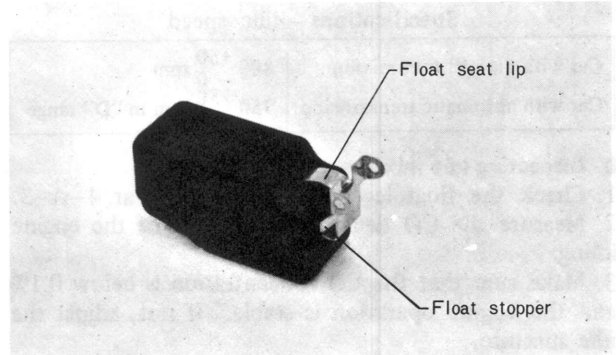

Fig. 4-8 Float
4. Adjust the clearance (H) to be 10 mm (0.39 in) by bending the float seat lip shown in Fig. 4-8.
If the distance (L) is not within specifications, adjust it by bending the float stopper shown in Fig. 4-8.